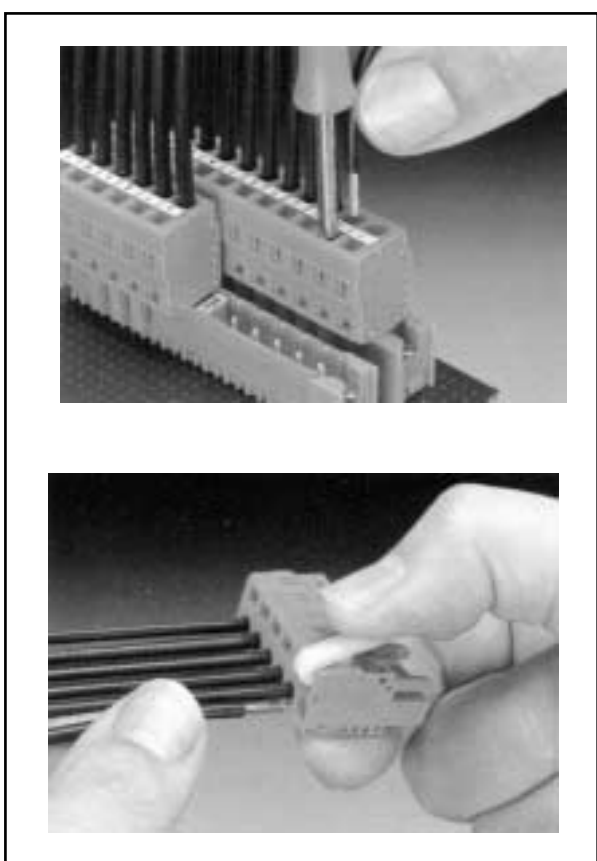

Fig 5 Connecting a WAGO 231
3. A small screwdriver with blade width around 2.5 mm (0.1") or a specific wire insertion tool as shown in Fig 5 (right side) might be used to open the clamp contact.
4. In case the screwdriver is used: insert it into the square hole of the corresponding connector pin as shown in the left side of Fig 5. The blade of the screwdriver should be inserted far enough into the connector. The metal spring of the cage clamp, which is visible from the side of the connector,